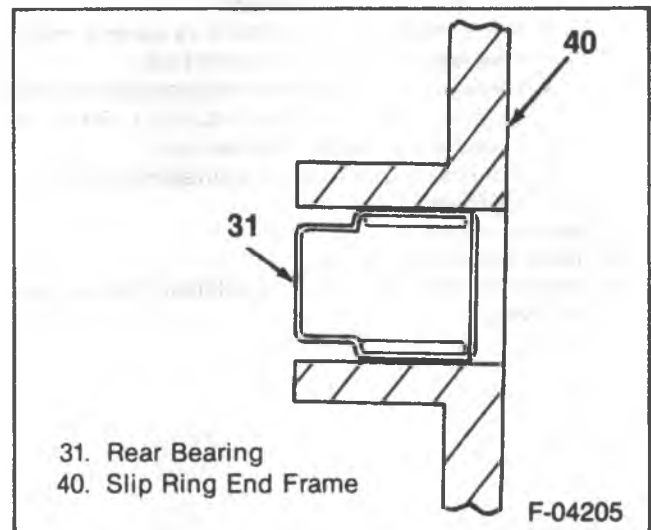

Figure 15—Slip Ring End Frame Bearing
- Press the bearing flush with the outside of the end frame (figure 15).